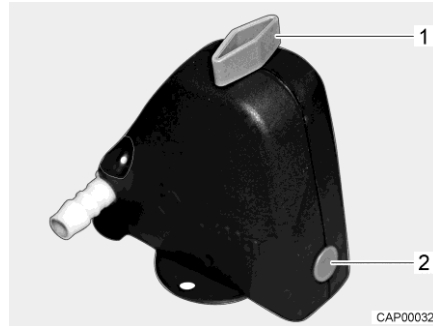
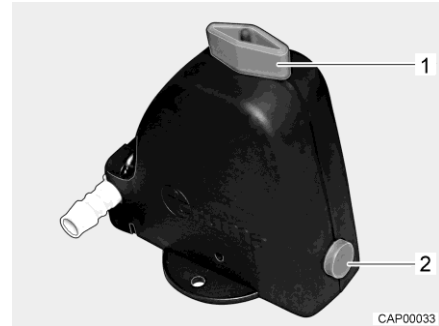

Fig. 65 Safety/drainage valve closed
Fig. 66 Safety/drainage valve open
- Open the safety/drainage valve (Fig. 65). To do this, turn the knob (Fig. 65,1) parallel to the safety/drainage valve. The push button (Fig. 65,2) jumps out. The open safety/drainage valve is shown in Fig. 66.